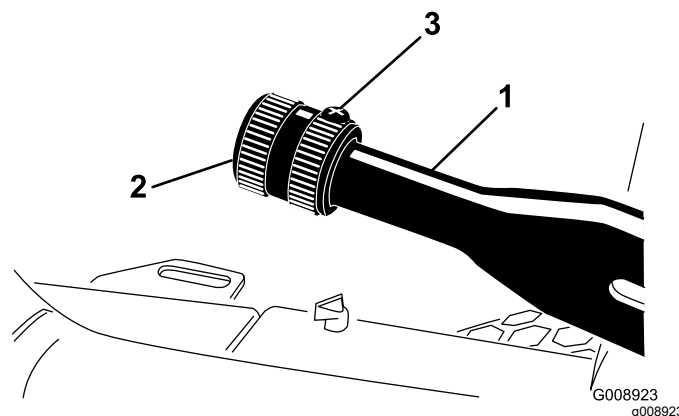

Figure 62
2. Loosen the setscrew securing the knob to the parking-brake lever (Figure 62).